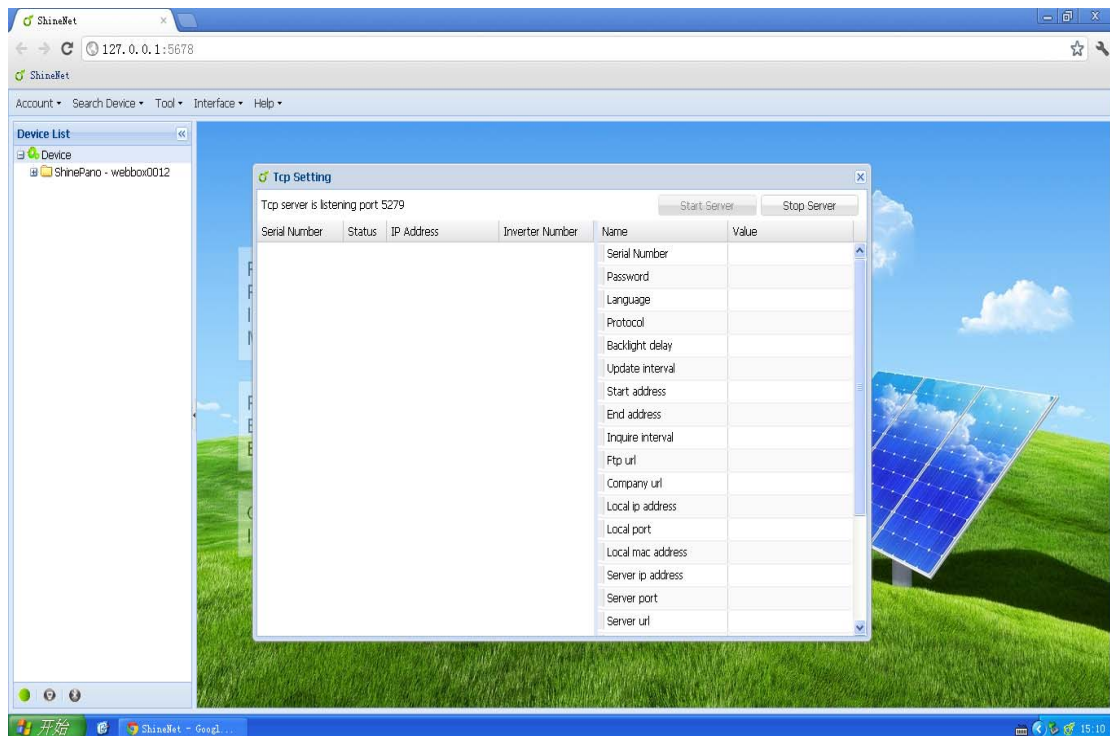

Figure 3-5-1
1. Single click “Search Device” then “Tcp setting”, a following pop-up interface will appear as figure 3-5-1.